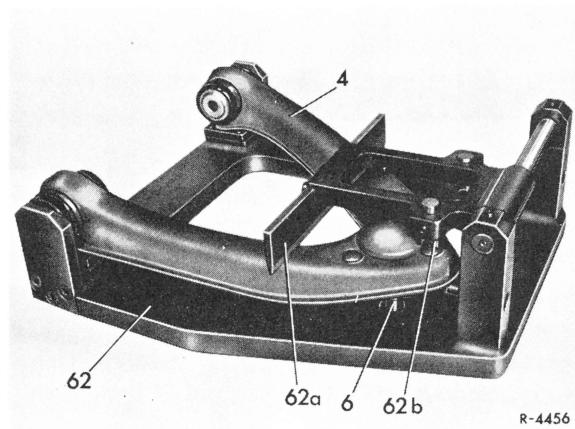

Fig. 1
1 To check for bending and non-parallelity, place the complete control arm with rubber mounts in the special device (62) (Fig. 1).